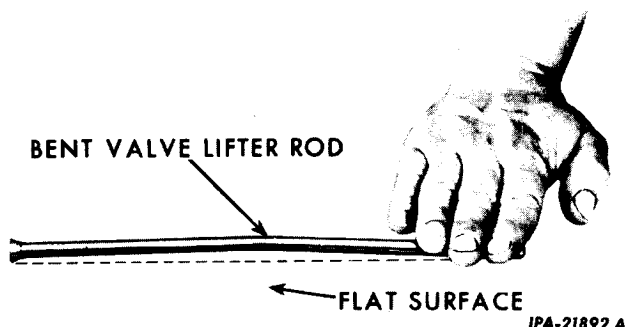

Fig. 24 - Checking Valve Lifter Rods for Straightness.
16. Check all of the valve lifter rods for straightness by rolling on a flat surface (Fig. 24). Replace any rods that are bent, have loose ends or are damaged in any way.